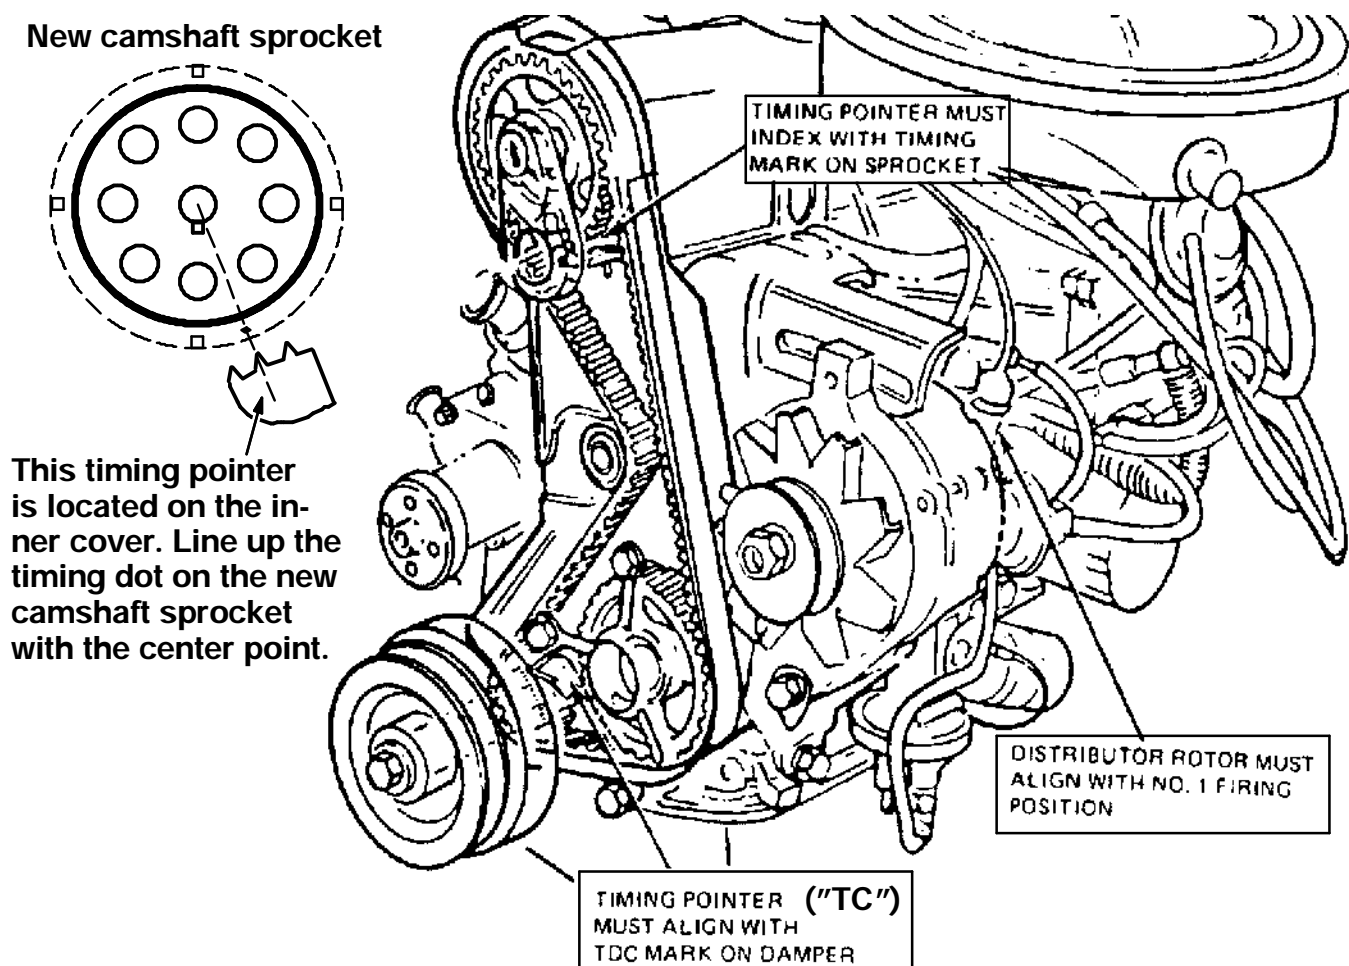

FIG. 3 - Timing Marks
(Refer to Fig. 3)
2. Before installing a new timing belt, make sure the camshaft sprocket timing mark lines up with the timing pointer on the engine. (Refer to Fig. 3)
4. Install the new timing belt (1) over the crankshaft sprocket and then counterclockwise over the the auxiliary and camshaft sprockets. Align the belt **fore** and **aft** on each sprocket. (Refer to Fig. 3)
6. Rotate the crankshaft two complete turns in normal rotation to remove the slack from the belt. (Refer to Fig. 3)
7. Re-check the alignment of the timing marks. (Refer to Fig. 3)
14. Reconnect the battery cables. Start the engine and check the timing. With the governor unhooked, the vacuum advance hose removed and plugged, and the engine running at 800rpm's or less, the timing should be 10 degrees BTDC. Adjust if necessary. (Refer to Fig. 3)